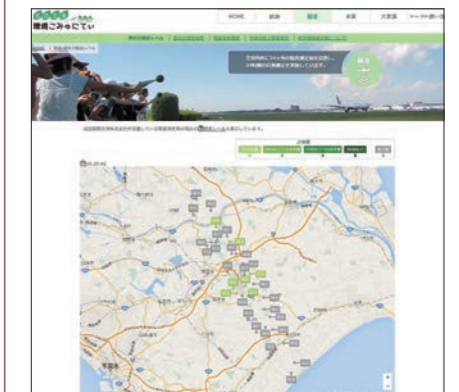

Figure 3: Example of aircraft noise information disclosure system
Three measurement systems were used for the test and the results were compared. One of them was the existing system configured by JAXA. Two were new systems using Rion's instruments. Figure 3 shows how the microphones were installed. On a 1-m square metal panel laid on the ground, microphones are horizontally placed with regular spaces of 110 mm. To protect from wind noise, they were covered with a hemispherical wind screen with a diameter of 90 mm. Cables from the microphones (pre-amplifier) were extended to place the measurement system inside the measurement facility.
Figure 3: Installation (The top photo ©JAXA) Starting from the left, JAXA's existing system (schematic diagram), new system (1) (Rion RIONOTE) and new system (2) (Rion NL-62)
Aircraft noise is generally monitored by national governments, the company responsible for operating the airport, or the municipality near the airport, which regularly publish reports on monitoring. In addition, some systems involve several noise monitoring systems installed around the airport, which acquire measurements constantly by network and disclose this information by Internet. Rion offers software for acquiring and tabulating data from multiple noise monitoring systems. Rion also offers information disclosure systems tailor-made for individual customers (Figure 3).